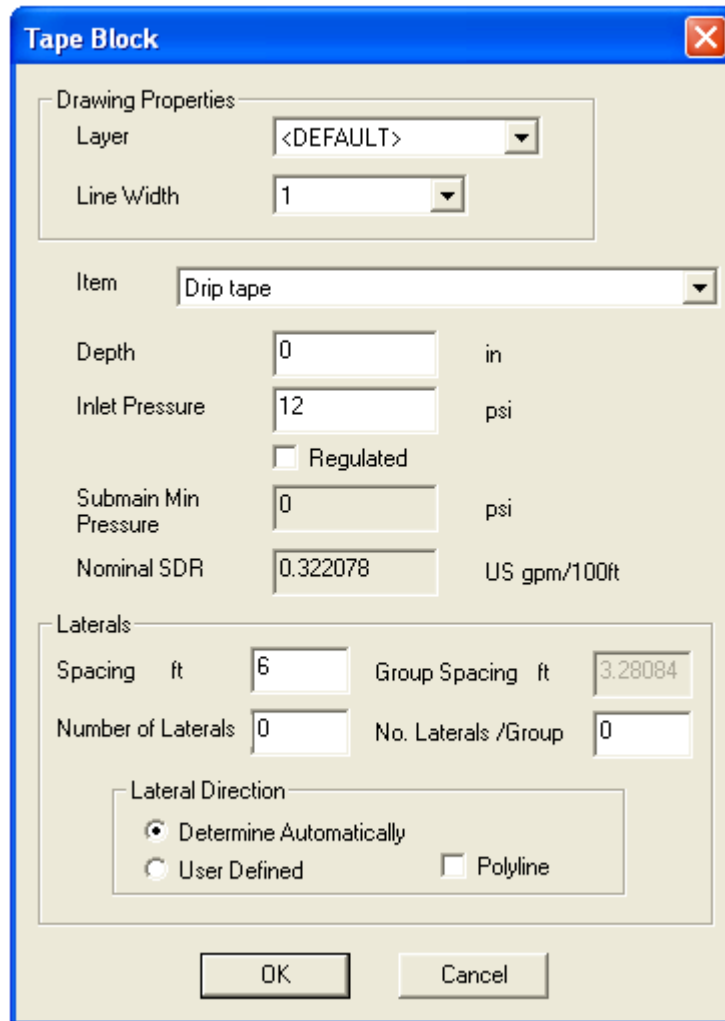

Figure SD 1
6. Type in **6ft (2m)** for the “*Lateral Spacing*” and leave the “*Number of Laterals*” as **0**. Make sure the “*Determine Automatically*” option for the “*Lateral Direction*” is selected as in Figure SD 1. Click *[OK]*.